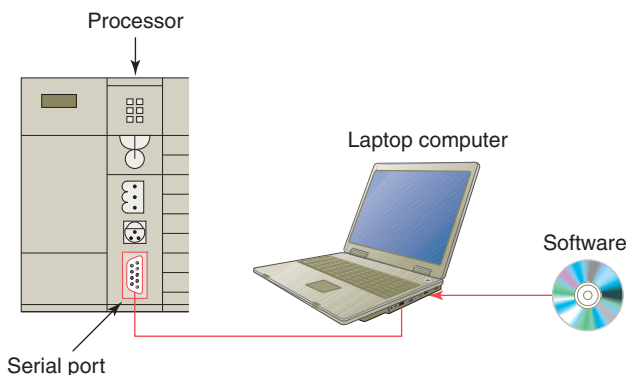

Figure 2-46 Personal computer used as the programming device.
The most popular method of PLC programming is to use a personal computer (PC) in conjunction with the manufacturer's programming software (Figure 2-46). Typical capabilities of the programming software include online and offline program editing, online program monitoring, program documentation, diagnosing malfunctions in the PLC, and troubleshooting the controlled system. Hard-copy reports generated in the software can be printed on the computer's printer. Most software packages will not allow you to develop programs on another manufacturer's PLC. In some cases, a single manufacturer will have multiple PLC families, each requiring its own software to program.